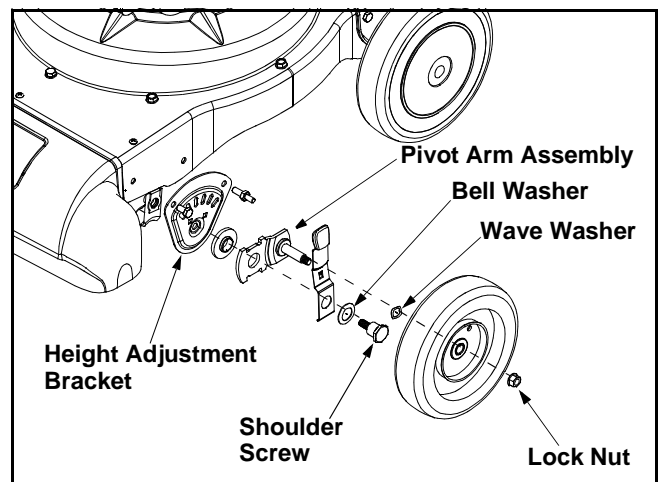

Figure 11
- Remove the lock nuts, front wheels, and wave washers that attach to the pivot arm assemblies. See Figure 11.